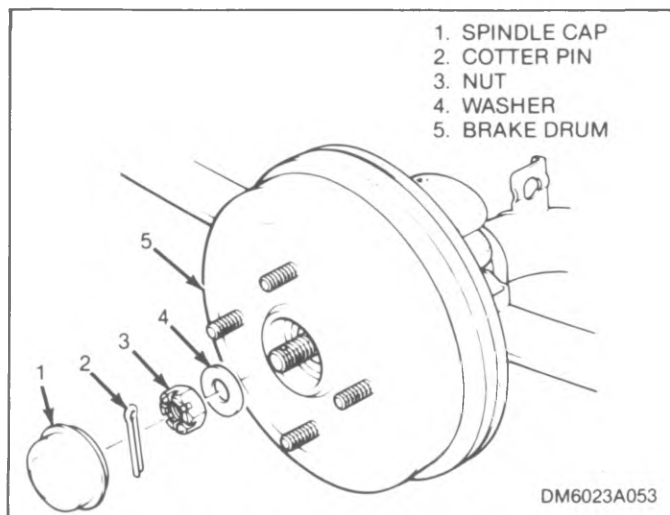

Figure 4-9. Remove and Install 1985-86 Sprint Brake Drum
4-22. 1985-86 SPRINT. To remove brake drums for servicing or to gain access to other brake components, proceed as follows (see figure 4-9):
10. Install brake drum (5) (see figure 4-9), washer (4) and nut (3). Torque nut to 80-120 N-m (58-86 lb-ft).